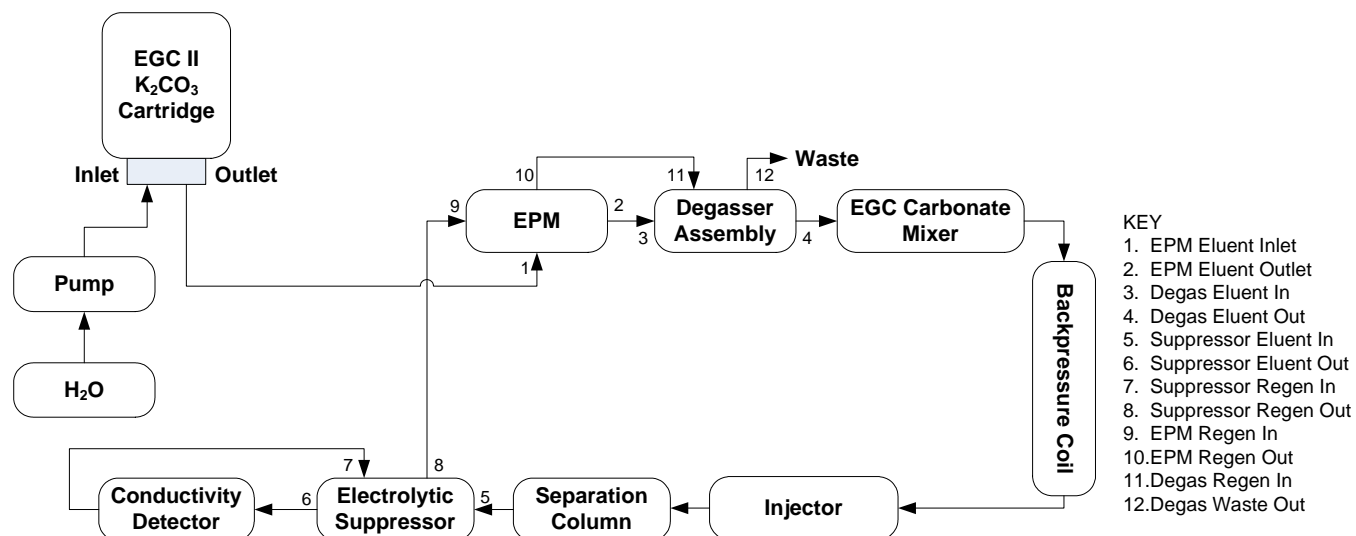

FIGURE 10
1. Complete the entire system plumbing as shown in Figure 10 for your application.
For applications using EGC II K₂CO₃ only for generating K₂CO₃ eluents, complete the entire system plumbing as shown in Figure 7. For applications using EGC II K₂CO₃ and EPM for generating K₂CO₃ / KHCO₃ eluents, complete the entire system plumbing as shown in Figure 10. Adjust the length of the backpressure tubing between the INLET of the injection valve and the OUTLET of the EGC Carbonate Mixer if needed to ensure the system backpressure falls between 2000 – 2300 psi at the system operation flow rate. Connect the REGEN OUT port of the suppressor to the REGEN IN port of the RFIC ELUENT Degasser Assembly when using EGC II K₂CO₃ only. Be sure to connect the REGEN OUT port of the suppressor to the REGEN IN port of the EPM when using EGC II K₂CO₃ and EPM. Turn on the pump and set the flow to the rate recommended for your application. Start operating the Electrolytic K₂CO₃/KHCO₃ Eluent Generator at the desired K₂CO₃ /KHCO₃ concentrations for your application.